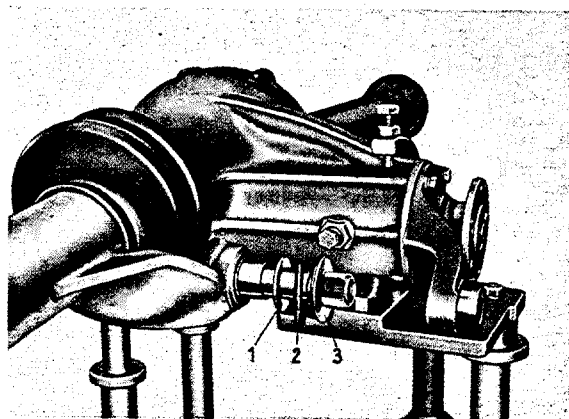

Fig. H 3a/69
69. Grease pin lightly, install adjusting washer and rear shim and mount lock ring. Then insert connecting pin until the splines become visible on the opposite side. Install front connecting pin sleeve, adjusting washer, rubber ring and shim (Fig. H 3a/69).